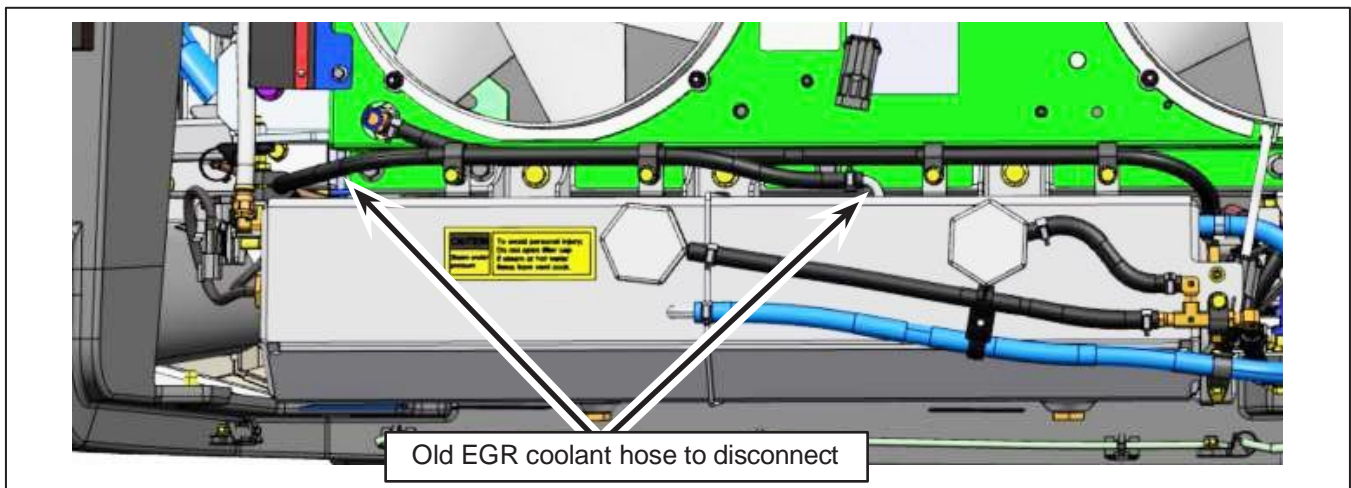

Figure 3 - Old EGR Coolant Hose
- 1.8. Disconnect the old EGR coolant hose from the surge tank. See Figure 3.